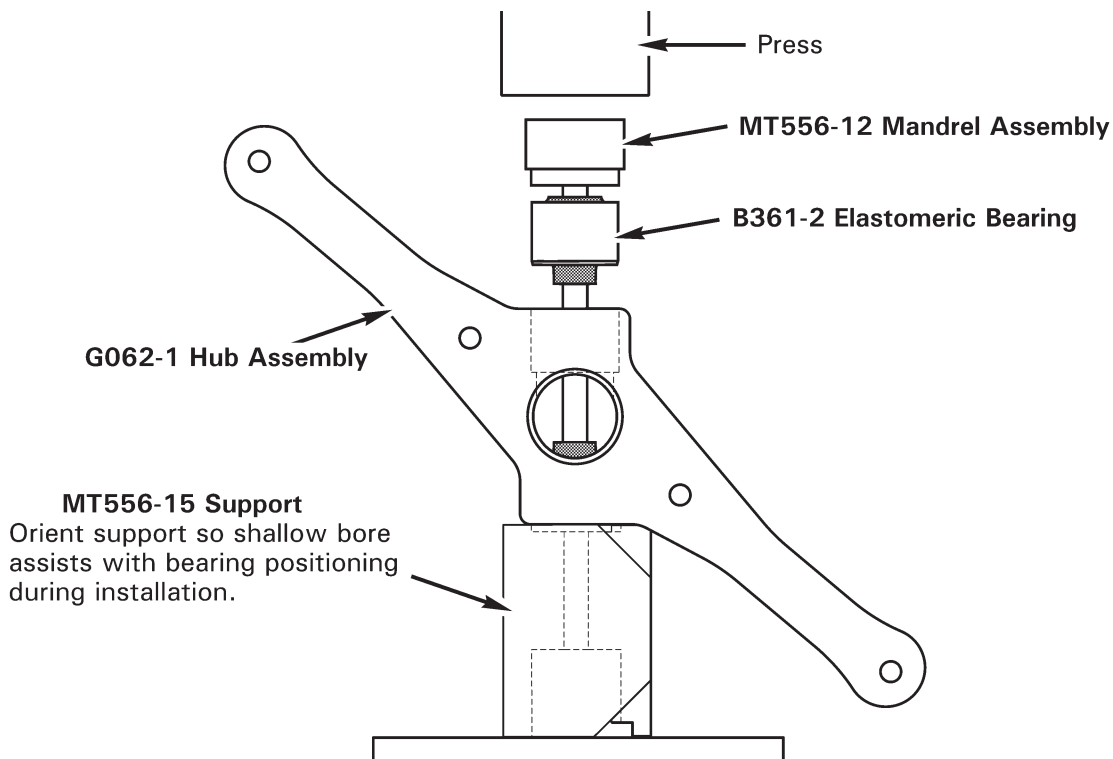

FIGURE 64-6 ELASTOMERIC BEARING INSTALLATION
2. Refer to Figure 64-6. Using Q-tip, apply light coat of approved primer per Section 20-70 to bottom of hub bearing bore. Apply a thin line of primer to center of bearing outside diameter. While primer is wet, press bearing into hub using MT556-11 bearing removal and installation tools. Wipe away excess primer.